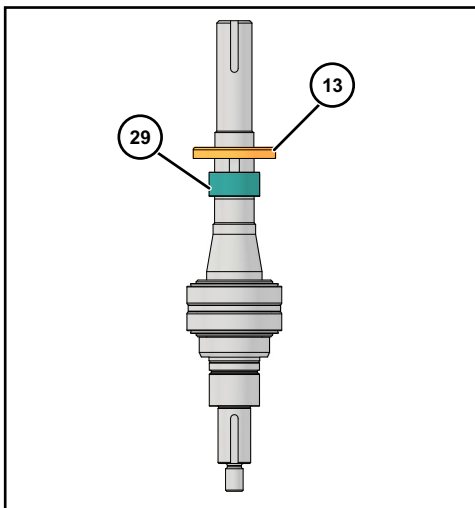

Figure 58 - Install Rear Seal
1. Install the gear spacers (Figure 58, item 29).
3. Install the oil seals with the spring facing out (Figure 58, item 13).